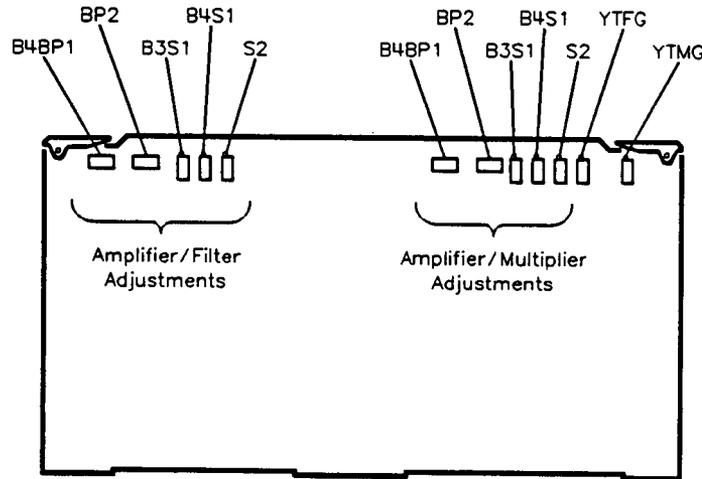

Figure 3-19. A12 Assembly Potentiometer Locations
18. Set A12R108 B3S1 fully clockwise (see Figure 3-19).
21. Adjust A12R108 B3S1 (see Figure 3-19) for maximum power over the rest of the sweep (3 to 10 divisions).